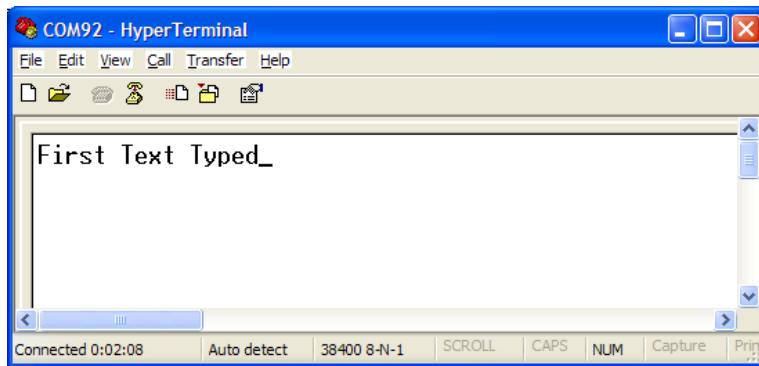

Figure 5-28. Text Echoed in Second Hyperterminal Window
- The typed text is displayed as output in the second Hyperterminal as shown in Figure 5-28